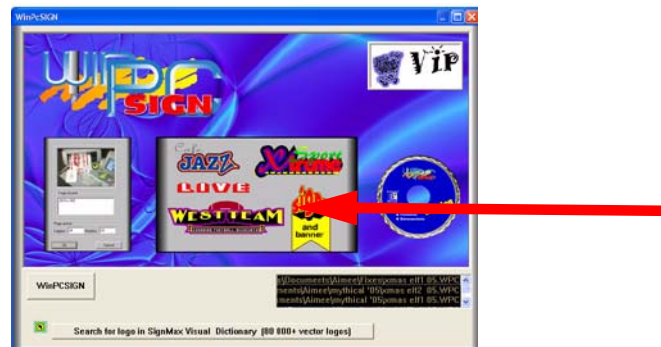

Figure 40
- 3 In the next window, click the **Open Existing Document** image in the middle of the screen. See figure 40.